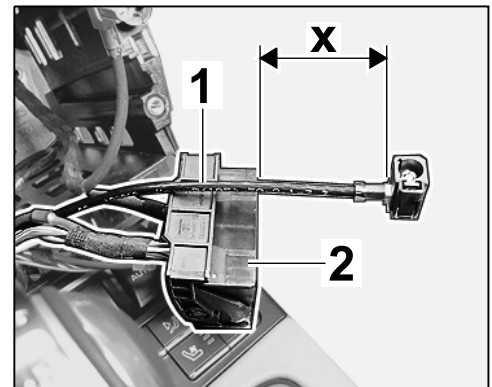

Figure 13
2.3.4 The GPS antenna line ⇒ *Figure 13 -1-* must protrude approx. 7 cm beyond the PCM central connector ⇒ *Figure 13 -2-*.